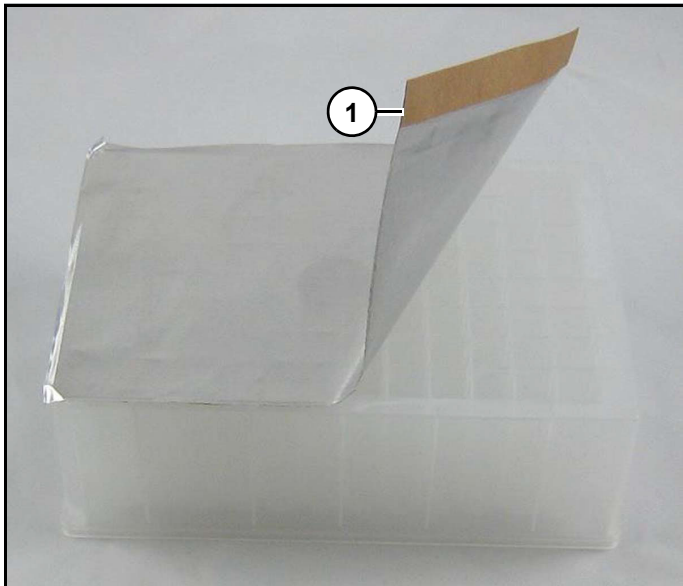

Figure 117
2. Using supplied foil seal (1) (Figure 117), apply seal to top of plate ensuring that all wells are completely covered.